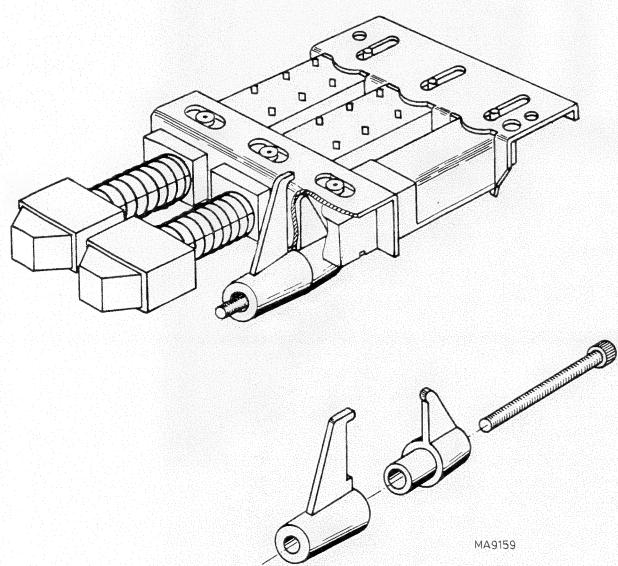

Fig. 3.9 Pushbutton set clamping device
- Before the pushbutton switches are refitted to the front panel, it is advisable to stick the two parts of each clamping device together by means of adhesive tape or non-hardening glue, in order to facilitate replacement, refer to Fig. 3.9.